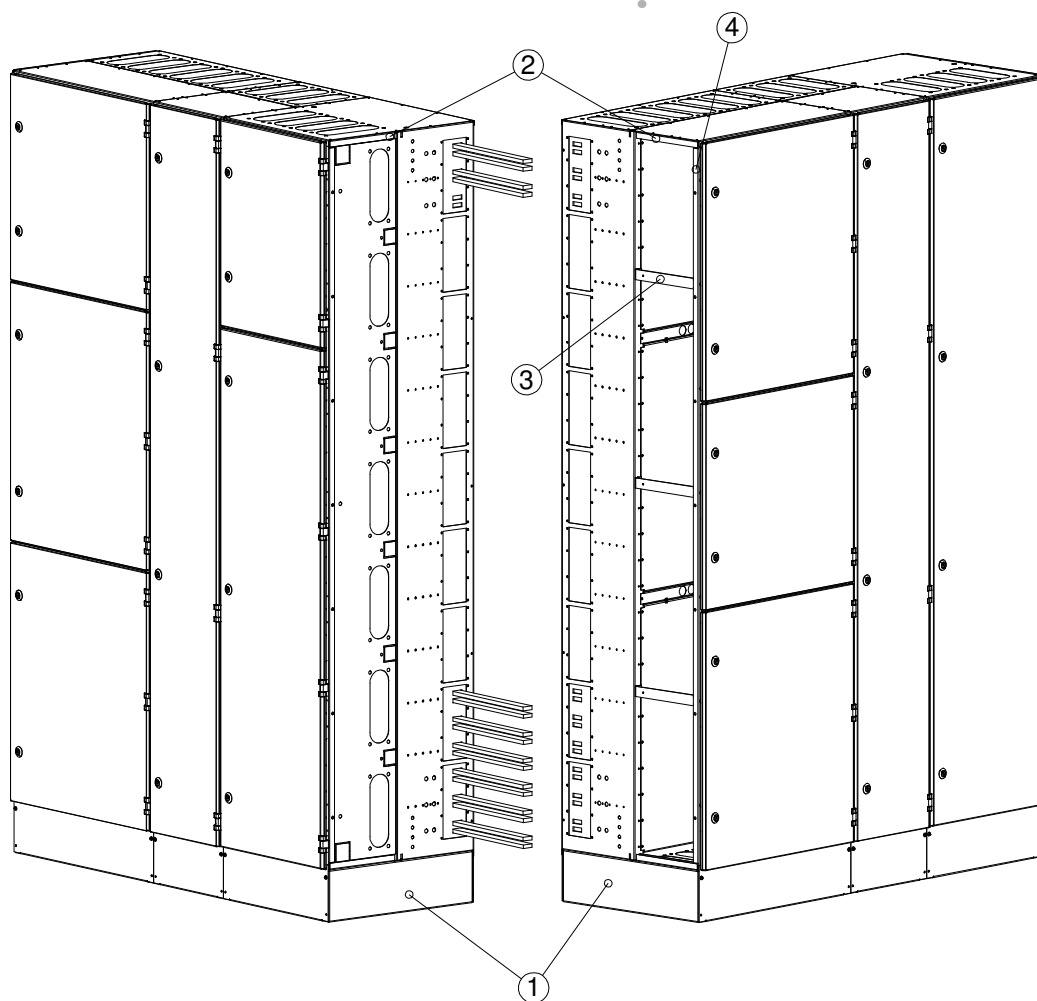

Fig. 5.1 Structure of transport break.
The F-series cell centre can be, as necessary, separated into two or more sections for transport. At the break point, the base dividers are replaced by two base end plates (1), the end supports by extension end supports (2), and the front profiles by extension front profiles (4), see Fig. 5.1. The transport break point should be located at either side of a cable field in order to make busbar reconnecting easier.
It is not necessary to have two front dividers at the transport break, as shown in Figure 5.1 where the other front divider is replaced by a few 250 mm intermediate supports (3).